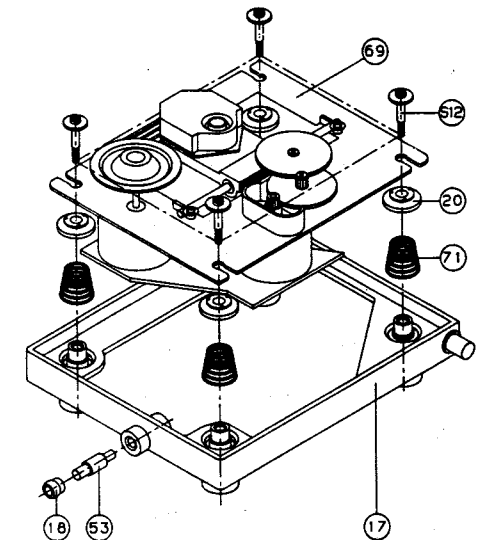

Figure 5
2. Remove four Screws (S12) & Rubber Damping(20). (See Figure 5.)